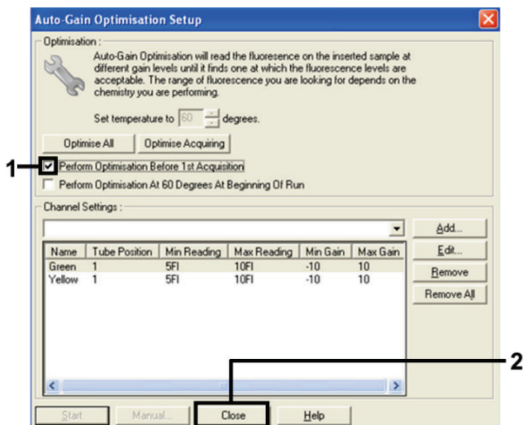

Figure 12. Selection of Green and yellow channels.
14. Check the **Perform Optimisation before 1st Acquisition** box, then click **Close** to return to the wizard (Figure 12).